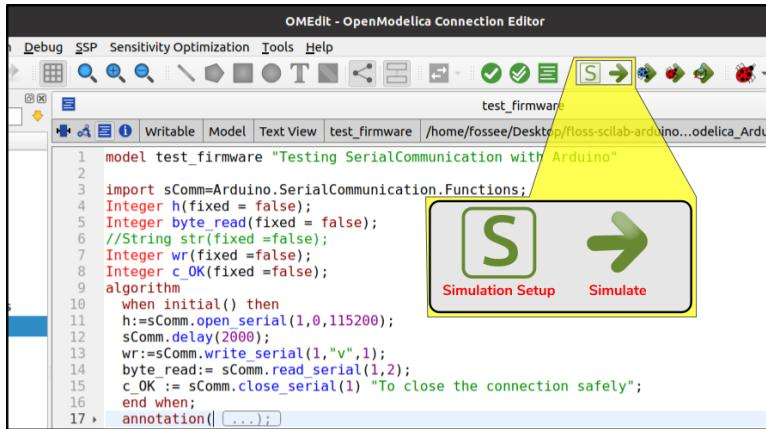
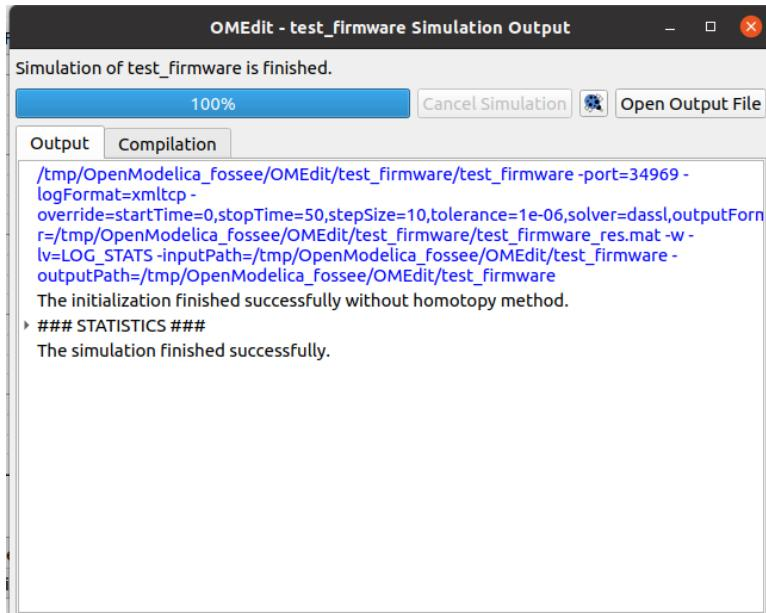

Figure 3.13: Simulating a model in OMEdit
Figure 3.14: Output window of OMEdit
we need to ensure that OMEdit is in Modeling Perspective. Next, we will click on the green right-sided arrow, named as Simulate, as shown in Fig. 3.13. When we click on Simulate, OMEdit will first compile the model and then, it will simulate the model for the time specified in the model itself. As OMEdit provides an elegant user interface for simulating the models, it will open an output window the moment you click on Simulate. Fig. 3.14 shows the output window after the simulation of our model is finished. Also, we can observe that the OMEdit is now in Plotting Perspective.
As shown in Fig. 3.14, OMEdit displays the message that "The Simulation finished successfully". Had there been any error in simulating the model, we would not have received this message.
**OpenModelica Code 3.1** An OpenModelica code/model to check whether the firmware is properly installed or not. Available at Origin/tools/openmodelica/windows/test\_firmware.mo, see Footnote 2 on page 3. Locate this file inside OpenModelica-Arduino toolbox, as explained in Sec. 3.2.4. Simulate this code/model by following the steps given in Sec. 3.2.3. If the simulation is successful, you should expect an output window in OMEdit as shown in Fig. 3.14.